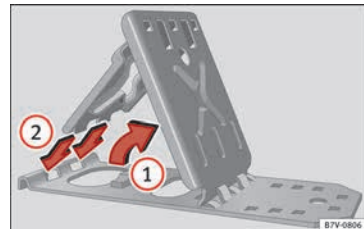

Fig. 102 To unfold the foldable wedges.
- Lift the base plate » Fig. 102 ①.
- Insert the two "tabs" of the mounting plate into the long openings on the base plate ②.